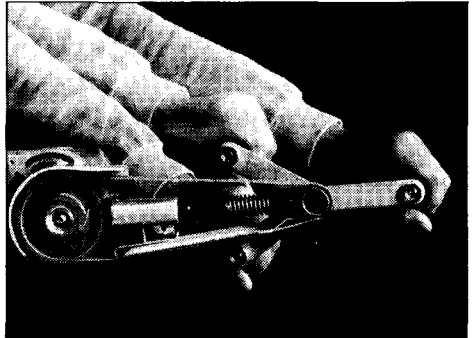

Fig. 5
3. Position the side grip as you prefer it (Fig. 5). To prolong the life of the belt, keep it running in the center of the pulley by exerting slight pressure with your hand on the grip. Pressure upon belt/workpiece surface on either side using grip will make belt move in that direction on the pulley.